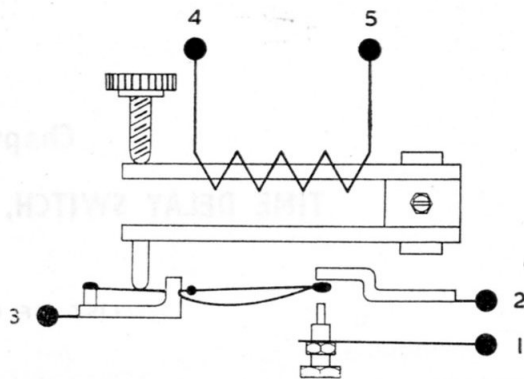

Fig. 2. Diagram of connections
5. Electrical connection is made by means of solder tags; the connections are as shown in fig. 2.